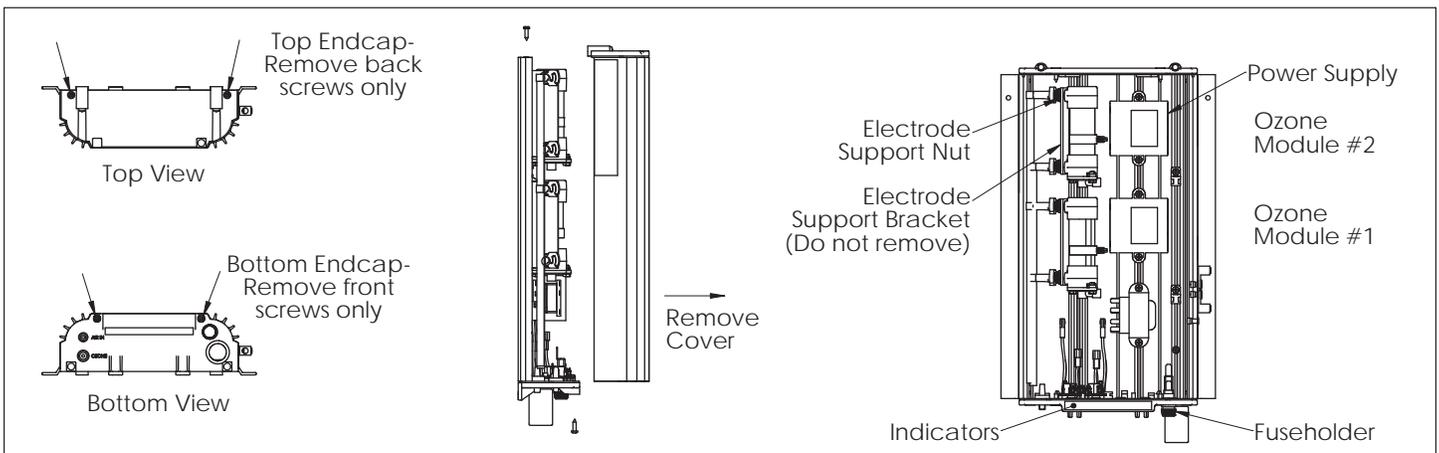

Figure 4 Component Locations (COP-2-B Shown).
Refer to Figure 4.
### 4C Generator Servicing - Refer to Figure 4
3. From the Bottom End-cap, remove the 2 front screws. See Figure 4 - Do not remove the screws securing the unit to the wall.